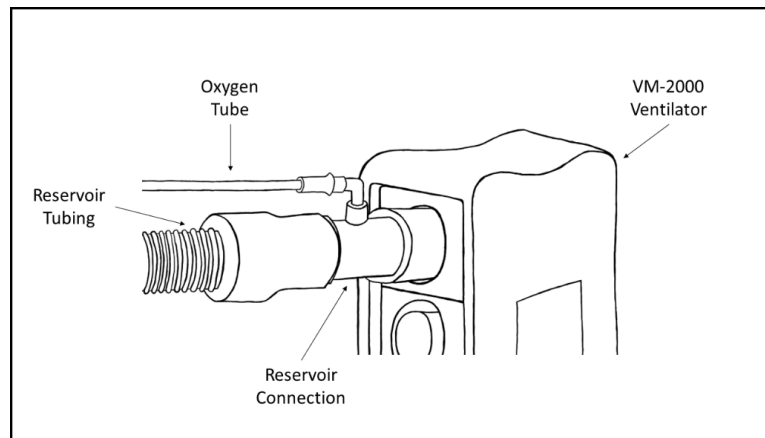

FIGURE 26-D: OXYGEN RESERVOIR CONNECTION
5. Attach reservoir to the Air/Gas inlet as shown in **Figure 26-D: Oxygen Reservoir Connection**